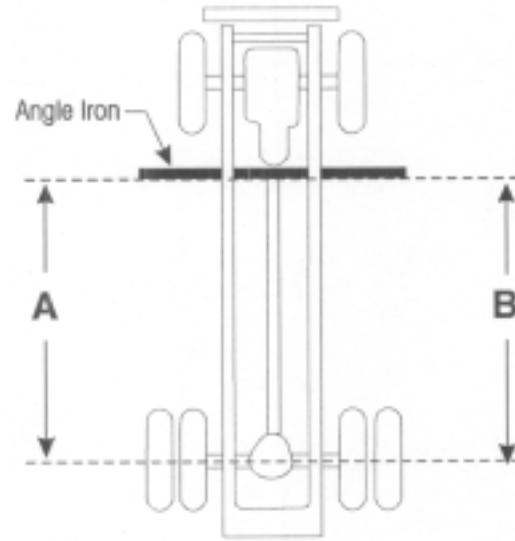

Figure 6.1
5. Using "C" clamps, securely clamp a six foot piece of STRAIGHT bar stock or angle iron across the lower frame flange as shown in **Figure 6.1**. Select a location as far forward of the drive axle as possible where components will not interfere.
7. Using a measuring tape, measure from straight edge to forward face of drive axle arm at the centerline of the spring seat on both sides of vehicle as shown in **Figure 6.1**, and B. If both sides measure within 1/8" of being equal, alignment of drive axle is acceptable. If A and B differ by more than 1/8", the following procedure must be followed.